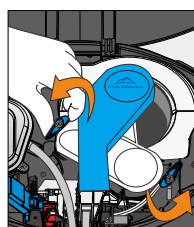

Figure 33
7. Unlock the turn knobs which hold down the SmartFlo™ Water Cartridge (Figure 33)